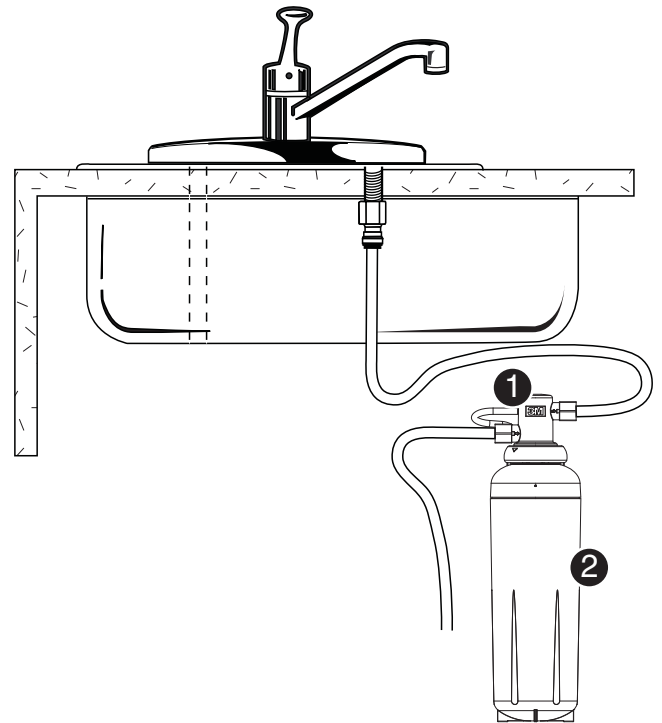
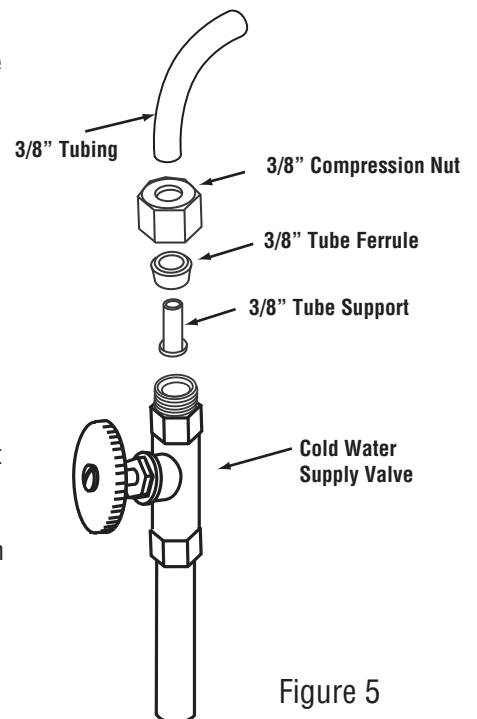

Figure 1
Figure 5
8. Insert 3/8" tubing from faucet adapter fitting into the filter head OUTLET fitting as shown in Figure 5.
10. Using a tube ferrule, compression nut and tube support (not included), slide nut and ferrule over 3/8" tubing, insert tube support and connect to the cold water supply valve. (See Figure 5) Insert other end into filter INLET fitting as shown in Figure 1.